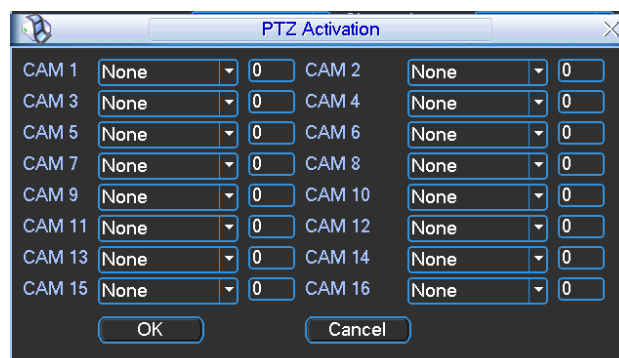

Figure 4-21
- PTZ activation: Here you can set PTZ movement when alarm occurs. Such as go to preset, tour & pattern when there is an alarm. Click “select” button, you can see an interface is shown as in Figure 4-21.